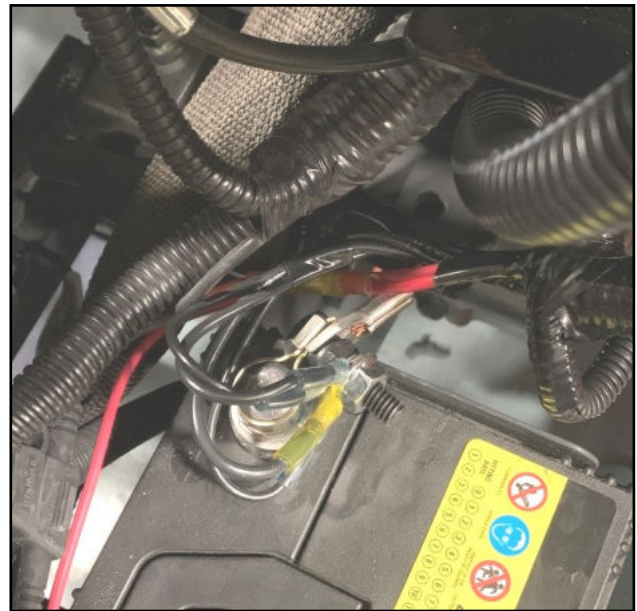

Fig. 7.22 (Connect Ground Wires)
7.22 See fig. 7.22. Install the 5 ring terminals on the black ground wires to the battery bolt and secure with an additional nut.